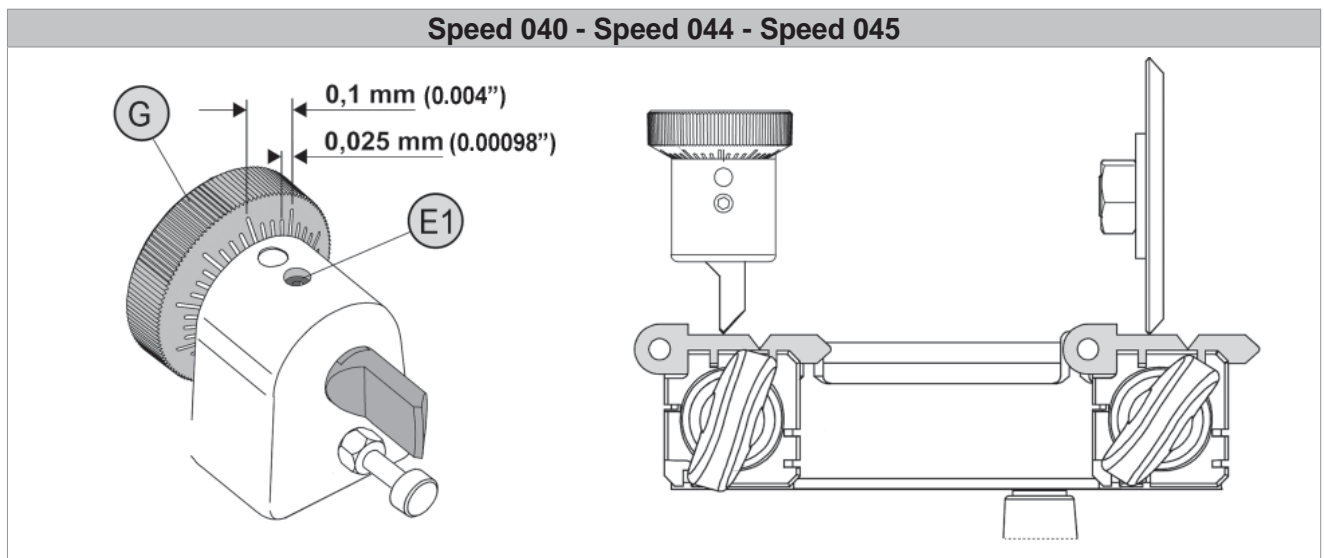

Fig. 20
- 7) Move the keys into contact with the cutting tool and tracer point (Fig. 20).
**NOTE: each notch on the centesimal ring corresponds to 0,025 mm (0.00098") (Fig. 20).**